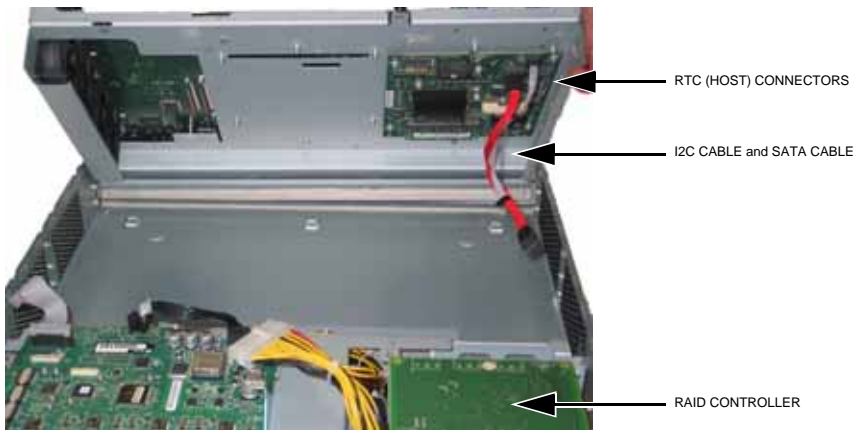

Figure 36: Disconnecting the I2C Cable and the SATA Cable - MXe III
- For the MXe III, disconnect the I2C and SATA cables from the hard drive backplane (or RAID controller if installed), and then disconnect the I2C and SATA cables from the RTC (host) IDE connector (see Figure 36).